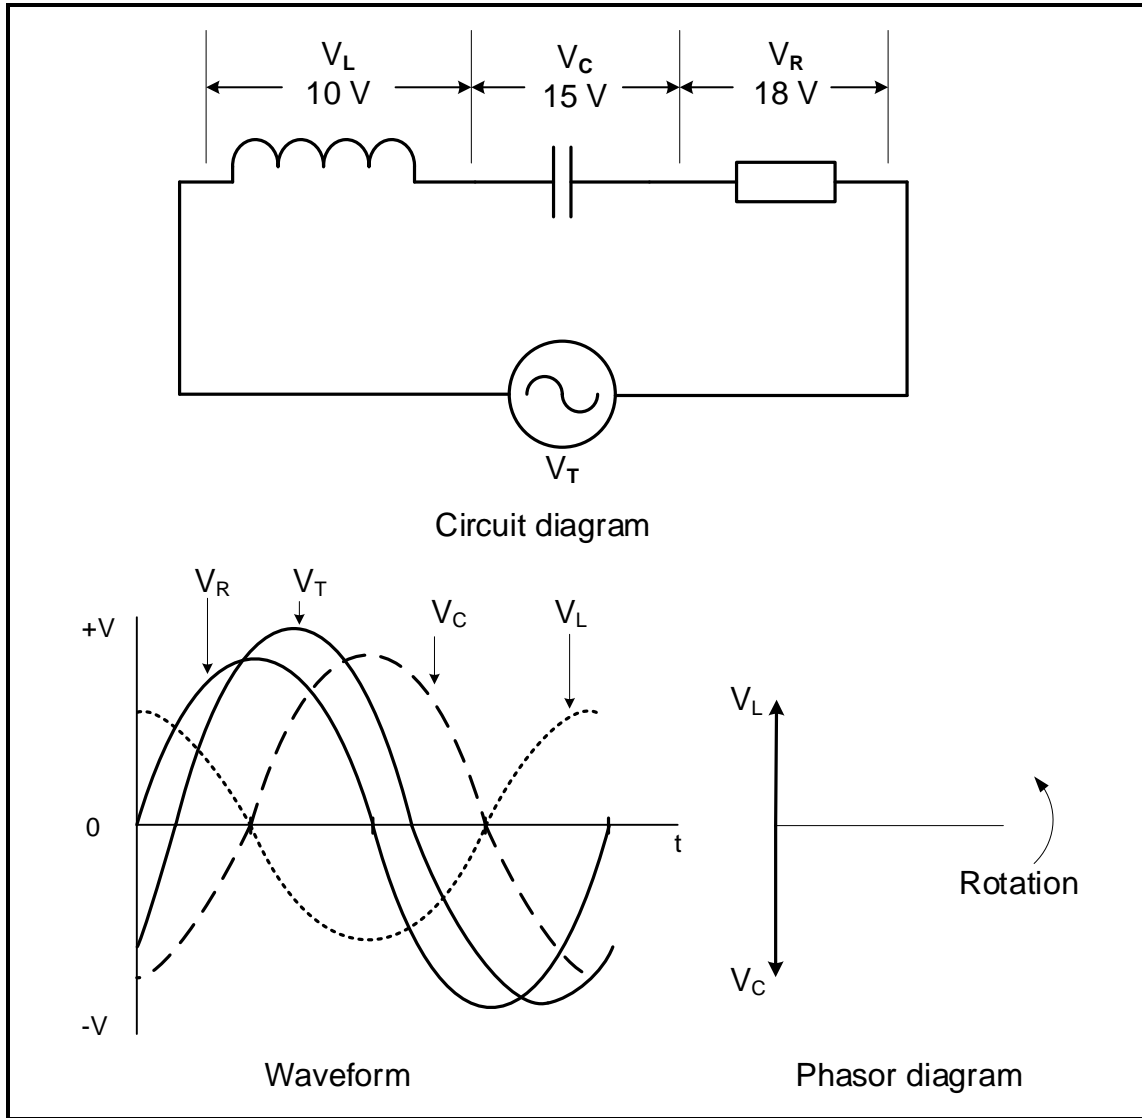

FIGURE 3.2: RLC CIRCUIT, WAVEFORM AND PHASOR
- 3.2 FIGURE 3.2 below shows the circuit diagram, waveforms and a partial phasor diagram of the voltages in a RLC circuit that is connected to an AC supply. Study the diagrams below and answer the questions that follow.